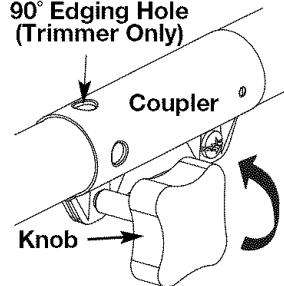
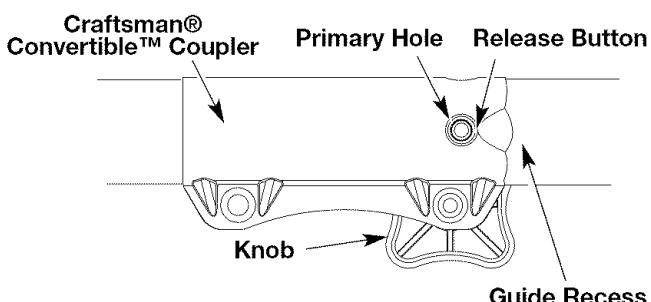
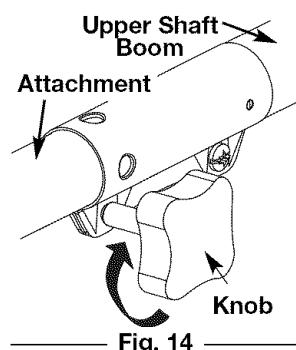

Fig. 12
Fig. 13
Fig. 14
- Turn the knob counterclockwise to loosen coupler (Fig. 12).
- Push in the release button (Fig. 13) and twist the shaft 90° until the release button snaps into the 90° hole (Fig. 12).
- Turn the knob clockwise to lock the coupler (Fig. 14).
CAUTION: Before operating this unit, be sure that the release button is fully snapped into the primary hole (Fig. 13), and that the knob (Fig. 14) is securely tightened.